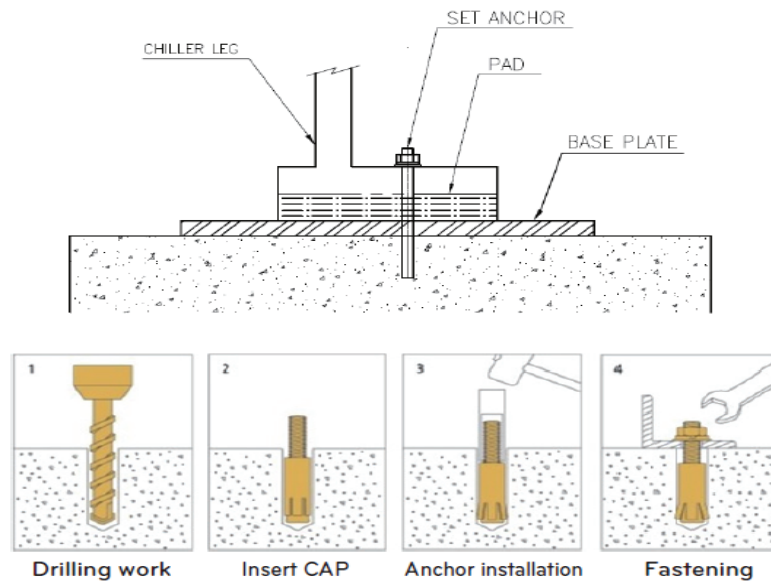

Figure 9. The installation work of isolation pads and Anchor Bolts
1) Install basic anti-vibration devices following the Figure 9 anti-vibration pad and Set Anchor Bolt Work Order shown below at the base of the product.